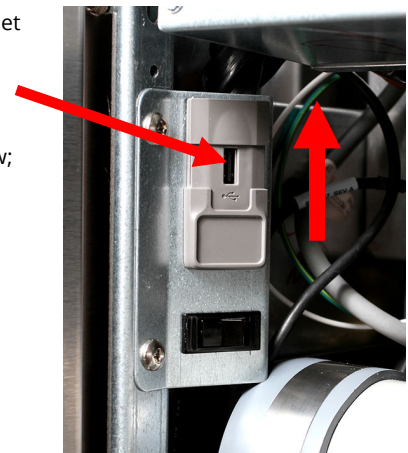

Figure 48
10. Open the far-left cabinet door and slide the USB cover up (see Figure 48).